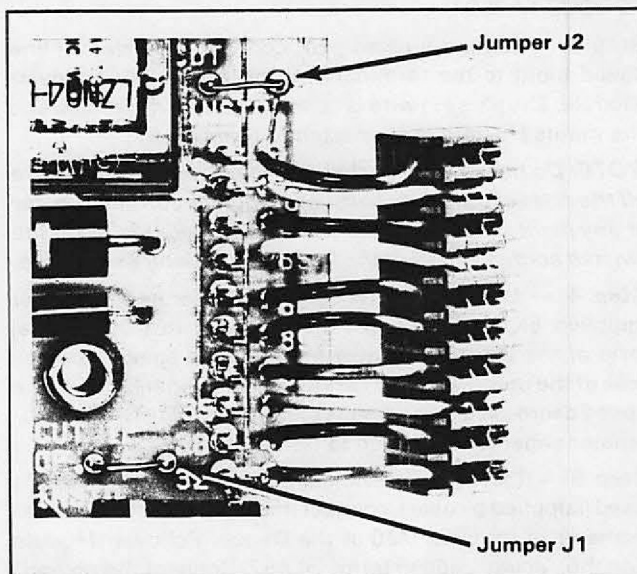

Figure 5.25 — Jumpers J1 and J2 on Switch Receiver Module
**NOTE:** The external start-stop wires from the Master Isolated Reference Transmitter (wires 189 and 288) must be connected to the Switch Receiver Module (Refer to Step 3.) before mounting the Remote Operator Adapter Module on the Switch Receiver Module. Jumpers J1 and J2 on the Switch Receiver Module (Refer to Figure 5.25.) must be cut when Remote Operator Stations are used. These jumpers are left connected when only control from the Master Isolated Reference Transmitter is desired.